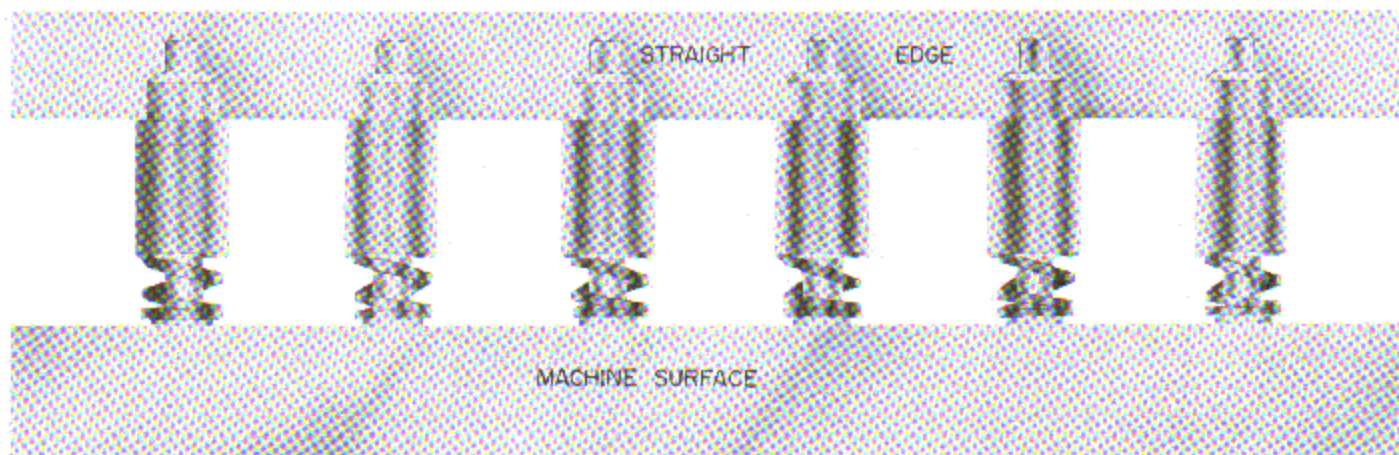

Figure 6-12. Checking Cylinder and Plunger Assembly with Straight Edge
- Stand the cylinder and plunger assemblies side by side on a machine surface, plunger side down, and lay a straight edge across the top. (See figure 6-12.) Any plunger assembly that is more than 1/32-inch below the straight edge is "collapsed" and must be rejected.